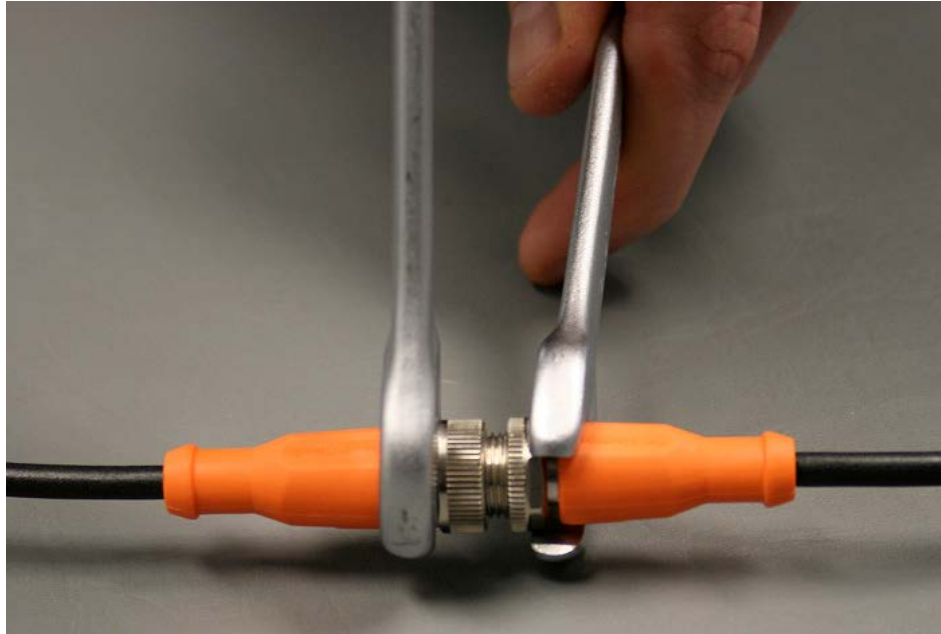

FIGURE 2-4 CONNECTING M12 CONNECTORS
- Hand-tighten the coupling nuts. Use 14 mm wrenches to further tighten the coupling nuts one extra notch (one click). The torque on the tightened nuts should be between 0.6 Nm and 1.5 Nm. Only apply torque on the flats of the metal coupling nuts. Refer to Figures 2-4 and 2-5.